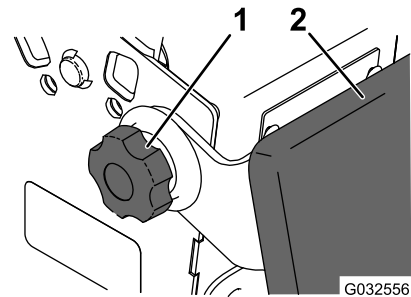

Figure 27
2. Loosen the twist knobs on each side of the machine (Figure 27).